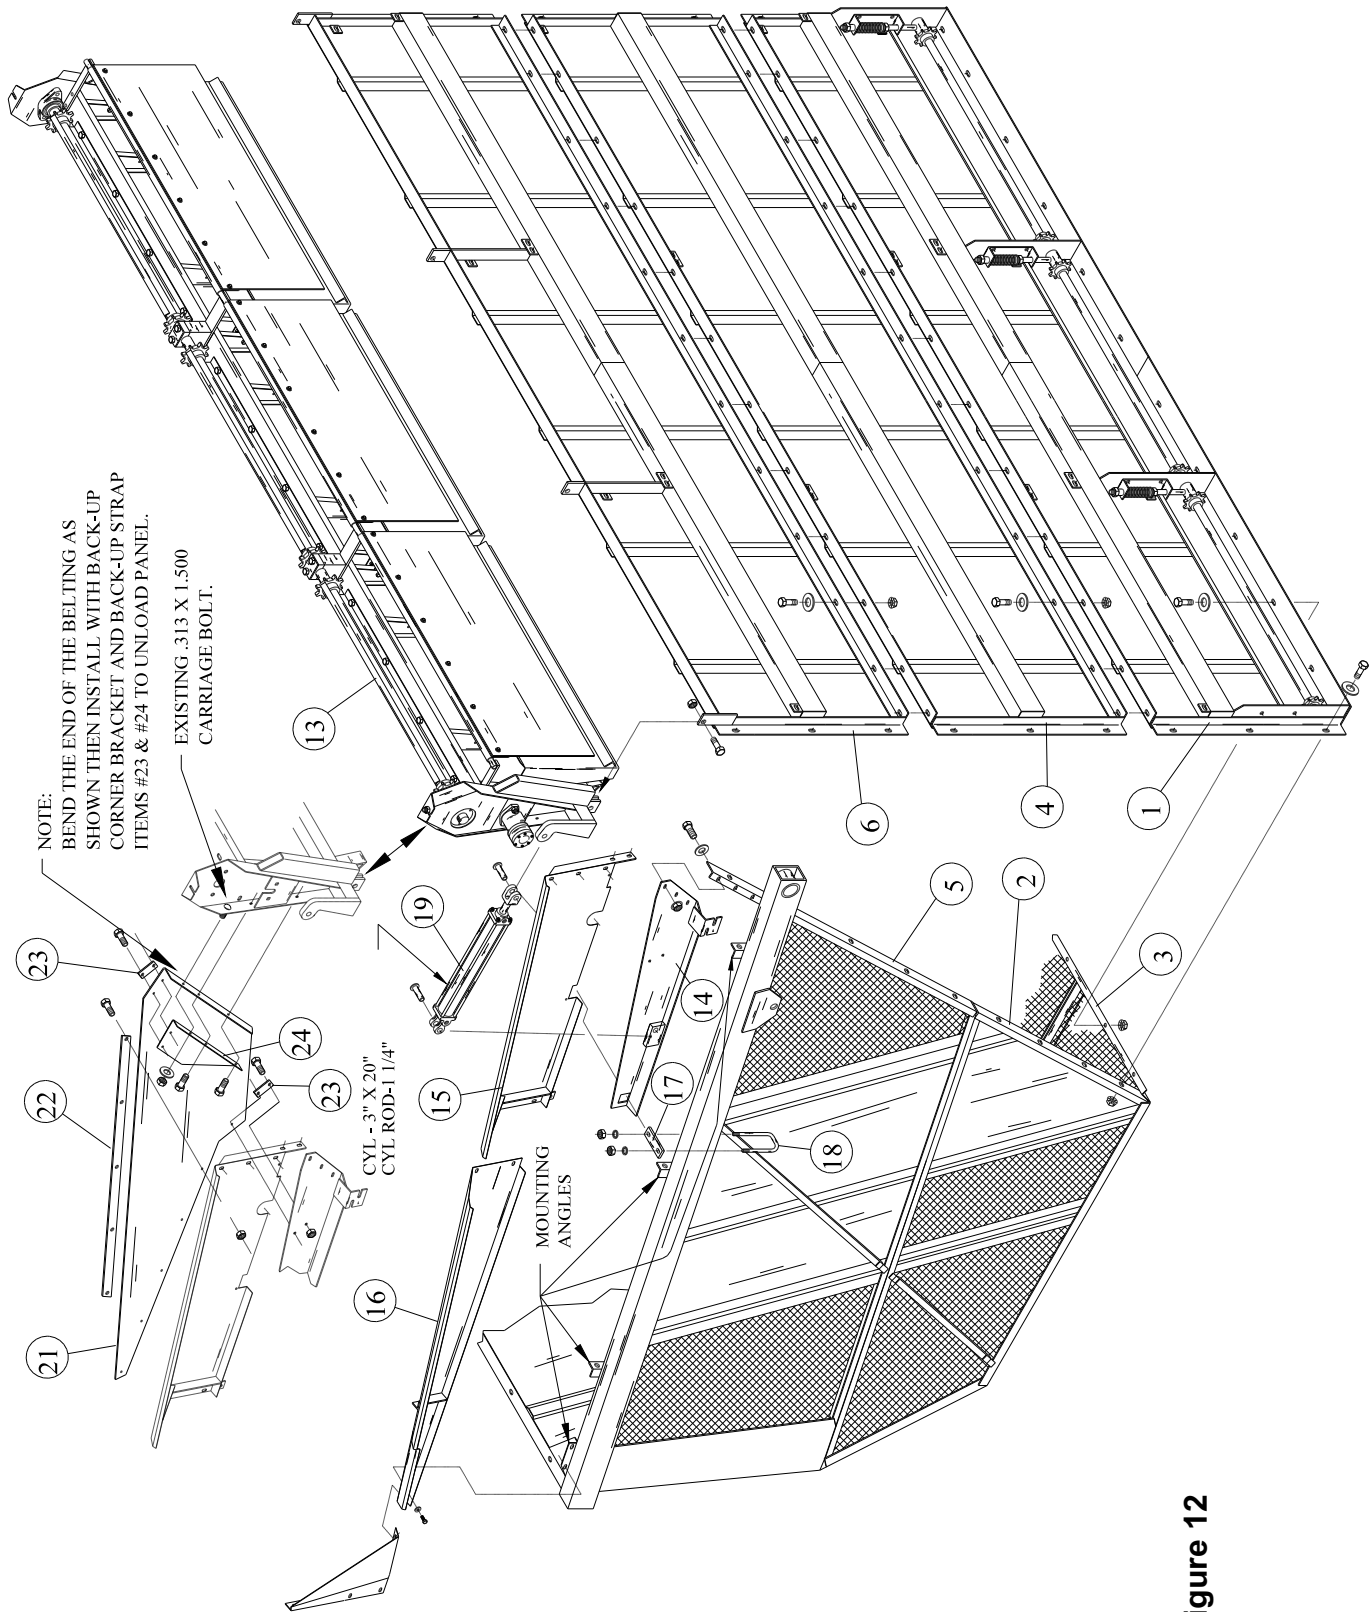

Figure 12
10. CHAIN DUMP SIDE -Refer to Figure 12. Attach the chain dump lower panel (Item 1) to the Boll Buggy bottom end panel (Item 2) and the floor panel (Item 3) using 1/2" x 1 1/4" bolts, flat washers, and flange lock nuts. **DO NOT TIGHTEN BOLTS AT THIS TIME!**
- 10.5 (Detail 12a) Assemble the chain guard (Item 11) using two (2) 5/16" x 3/4" carriage bolts (Item 12) and nuts, one (1) 5/16" x 1 1/2" carriage bolt (Item 25) and nut. Note the location of the 5/16" x 1 1/2" carriage bolt. It will be used to help attach the skirtboard (Item 21 - Figure 12) in a later step.
- 10.12 (Refer to Figure 12 - page 16.) Assemble the hydraulic cylinder (Item 19) to the hydraulic cylinder mounts (Item 14) and to the unload panel assembly (Item 13).
- 10.14 Refer to Figure 12, page 16. Assemble the skirtboards (Item 21) to the chain dump extension sides and the hydraulic cylinder mounts (Items 14 & 15) using two (2) back-up straps (Item 22 & 23). Secure with 5/16" x 1" bolts and lock nuts. Bend the end of the skirtboard as shown and attach to the unload panel with back-up straps (Items 23 & 24) using two (2) 5/16" x 3/4" self tapping screws, two (2) 5/16" x 1" bolts, and three (3) lock nuts.